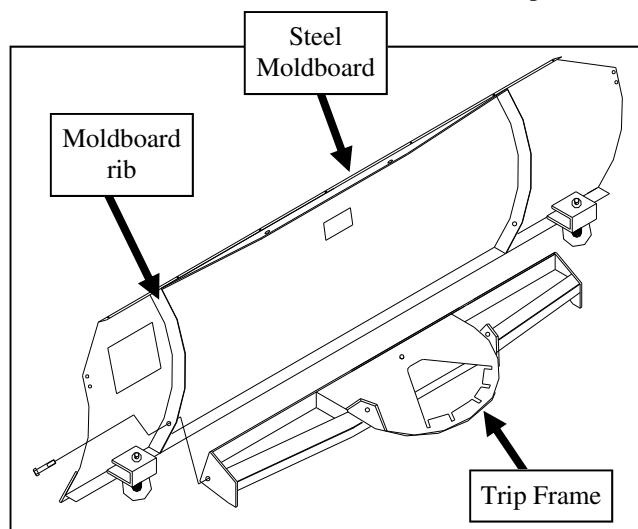

Fig. 5.1—Trip-Frame to Moldboard Assembly
- 5.1 Per fig 5.1, locate the steel moldboard, trip frame, two 1/2-13 x 2" bolts, and two 1/2-13 Nylock lock nuts. Apply all-season grease to the mating surfaces on the trip frame and moldboard rib. As shown, line up the mounting hole in the trip frame with the mounting hole on the moldboard rib (near the bottom). Install into the mounting holes a 1/2-13 x 2" bolt as shown. Install a 1/2-13 Nylock nut on the back side of the bolt. Repeat installation of hardware for the right side, orienting the bolt head to face away from the center of the moldboard. Tighten the Nylock nuts until all thread slack is removed from the assembly while allowing the trip frame to rotate freely.